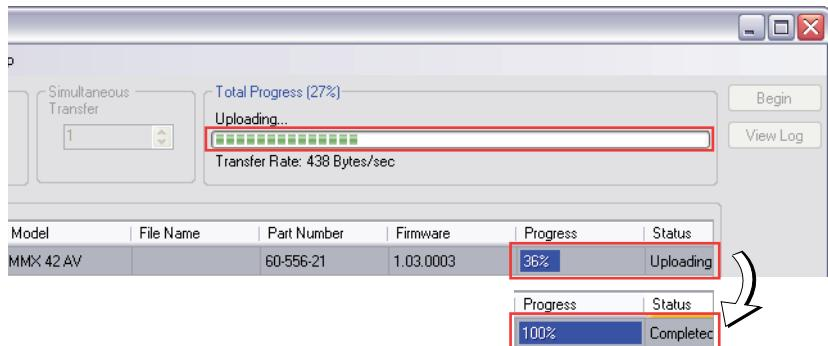

Figure 4-14 — Firmware Loader screen
8. In the Firmware Loader window, click **Begin** (figure 4-14).